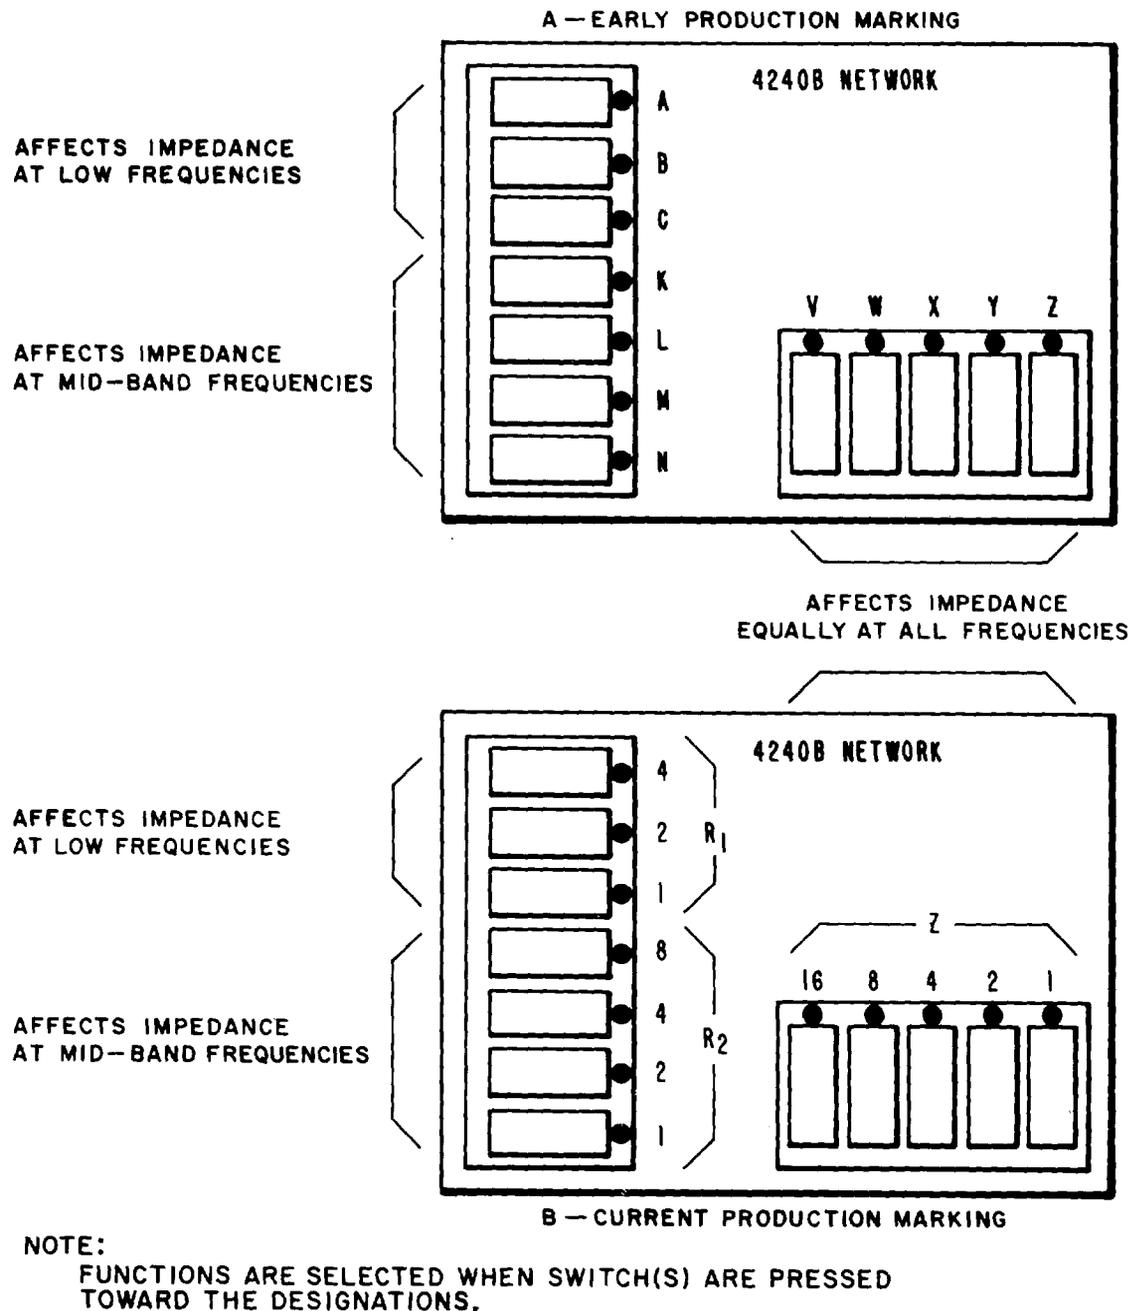

Fig. 4—Precision Balance Switch Functions J99343PB, L1, L2
2.05 The precision balance network (PBN) in the J99343PB,L1 and L2 provides hybrid balance by matching the impedance of the 2-wire, nonloaded facility. The PBN balances 19-, 22-, 24-, and 26-gauge facilities and 25-gauge Metropolitan Area Trunk (MAT) (low capacitance) facilities. The controls for this PBN are designated R1, R2, and Z. Early models had different markings as shown in Fig. 4.
2.10 The controls for the nonloaded facility PBN are illustrated in Fig. 4. This figure shows the
3.10 The controls for the nonloaded facility PBN are illustrated in Fig. 4. This figure shows three groups of switches: R1 (4, 2, 1), R2 (8, 4, 2, 1), and Z (16, 8, 4, 2, 1), respectively. See Section 332-912-212 for prescription settings of the PBN (nonloaded).